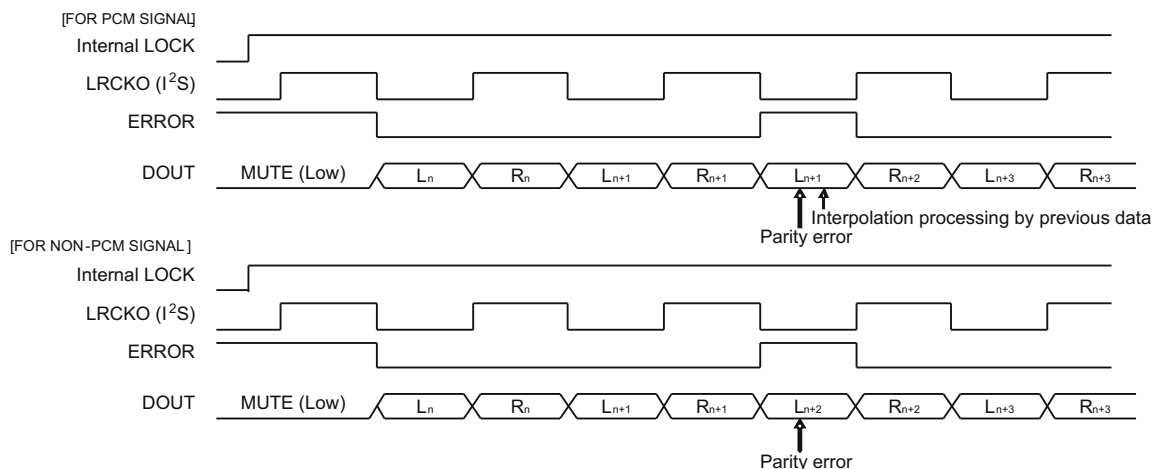

FIG 7-16. Processing for Parity Error Occurrence
- For PCM data, when an error is detected (for example, a parity error), then the data from the previous sample are repeated. This sequence is shown in FIG 7-16, where sample L_{n+1} is repeated because the incoming data (L_{n+2}) had an error.
FIG 7-16 shows the processing for parity error occurrence.